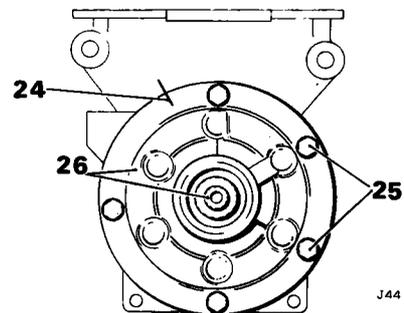

Fig. 30
24. Scribe alignment marks on the transmission case and oil pump (Fig. 30).
25. Remove the bolts and wave washers securing the oil pump to the transmission case (Fig. 30).
26. Support the stator tube and withdraw the oil pump (Fig. 30).